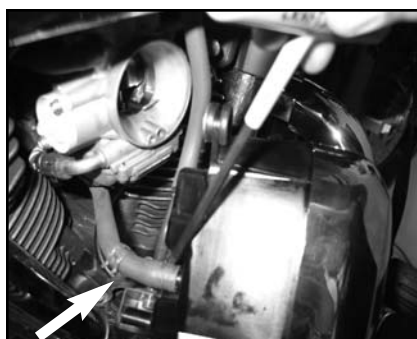

Fig. 2
2. Remove the breather hose from the back of the air cleaner case. (Fig. 2)